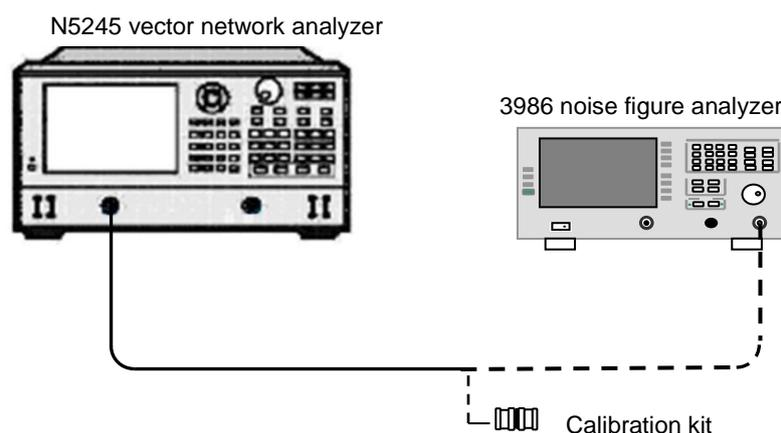

Figure 8.7 Test Block Diagram of Input VSWR
**Step 1.** Connect the test equipment as shown in Figure 8.7 and warm it up for 30min.